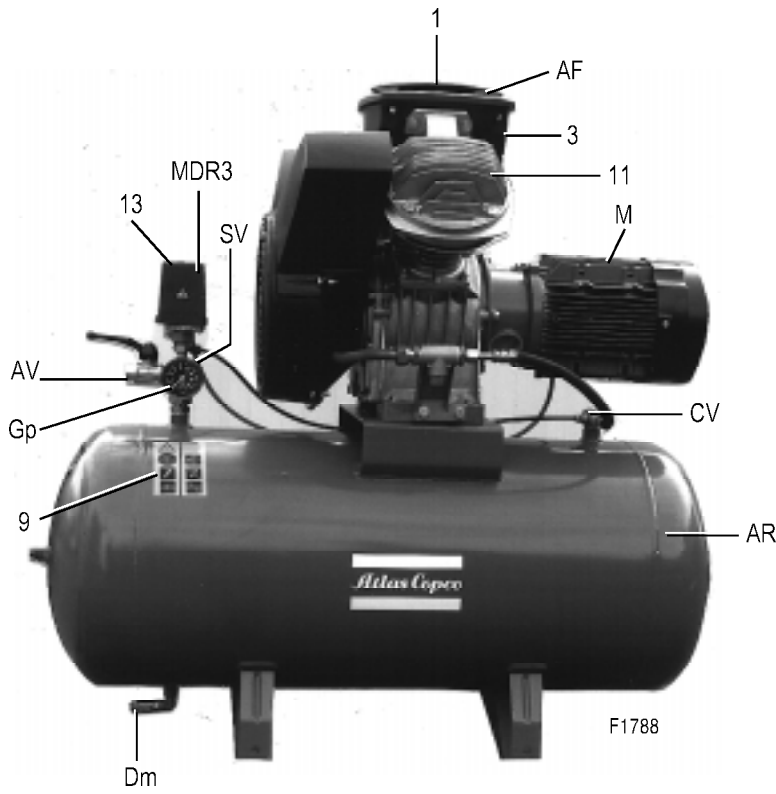
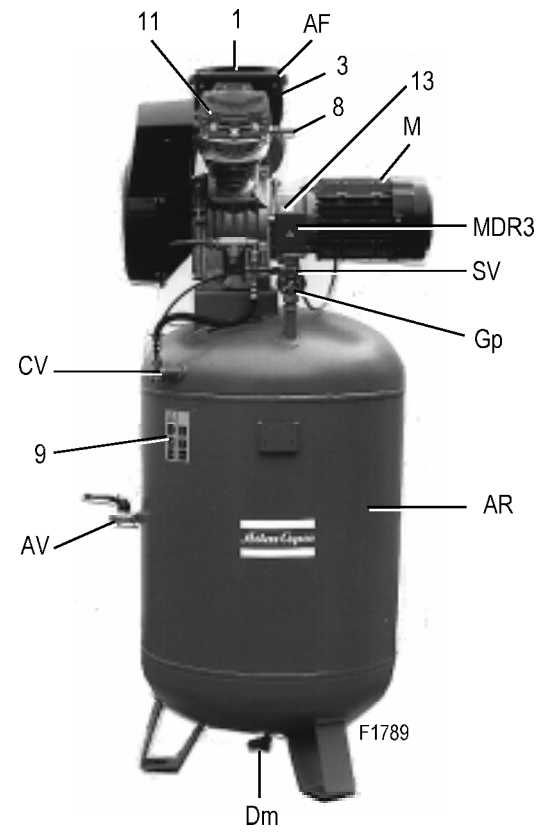

Fig. 2a. Complete Unit, LT15/22, horizontal receiver
Fig. 2b. Complete Unit, LT15/22, vertical receiver
- **For LE/LF/LT15 and -22:** the Compressor Block as described above, with flanged-on electric motor (M), check valve (CV-Fig. 2a) and air pressure switch/start switch (MDR3-Fig. 2a).
- **For LE/LF/LT15 and -22:** the Power Pack mounted on a horizontal (Fig. 2a) or vertical (Fig. 2b) air receiver (AR) with air outlet valve (AV), pressure gauge (Gp), safety valve (SV) and condensate drain valve (Dm).